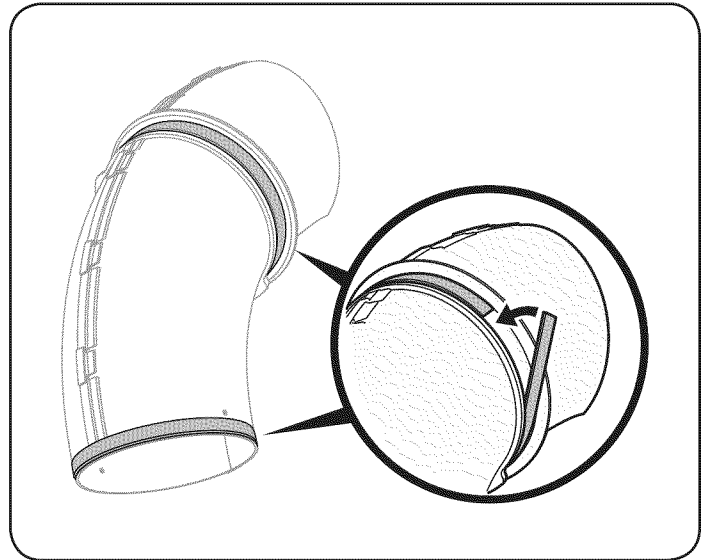

Figure 14
1. Peel the backing off of one of the narrow self-adhesive foam strips that has been included with your grass collector. Apply it to the upper chute, flush against the flange as shown in Figure 14.
2. Peel the backing off of the other narrow self-adhesive foam strip and apply it to the bottom edge of the upper chute tube, flush against the edge as shown in Figure 14.